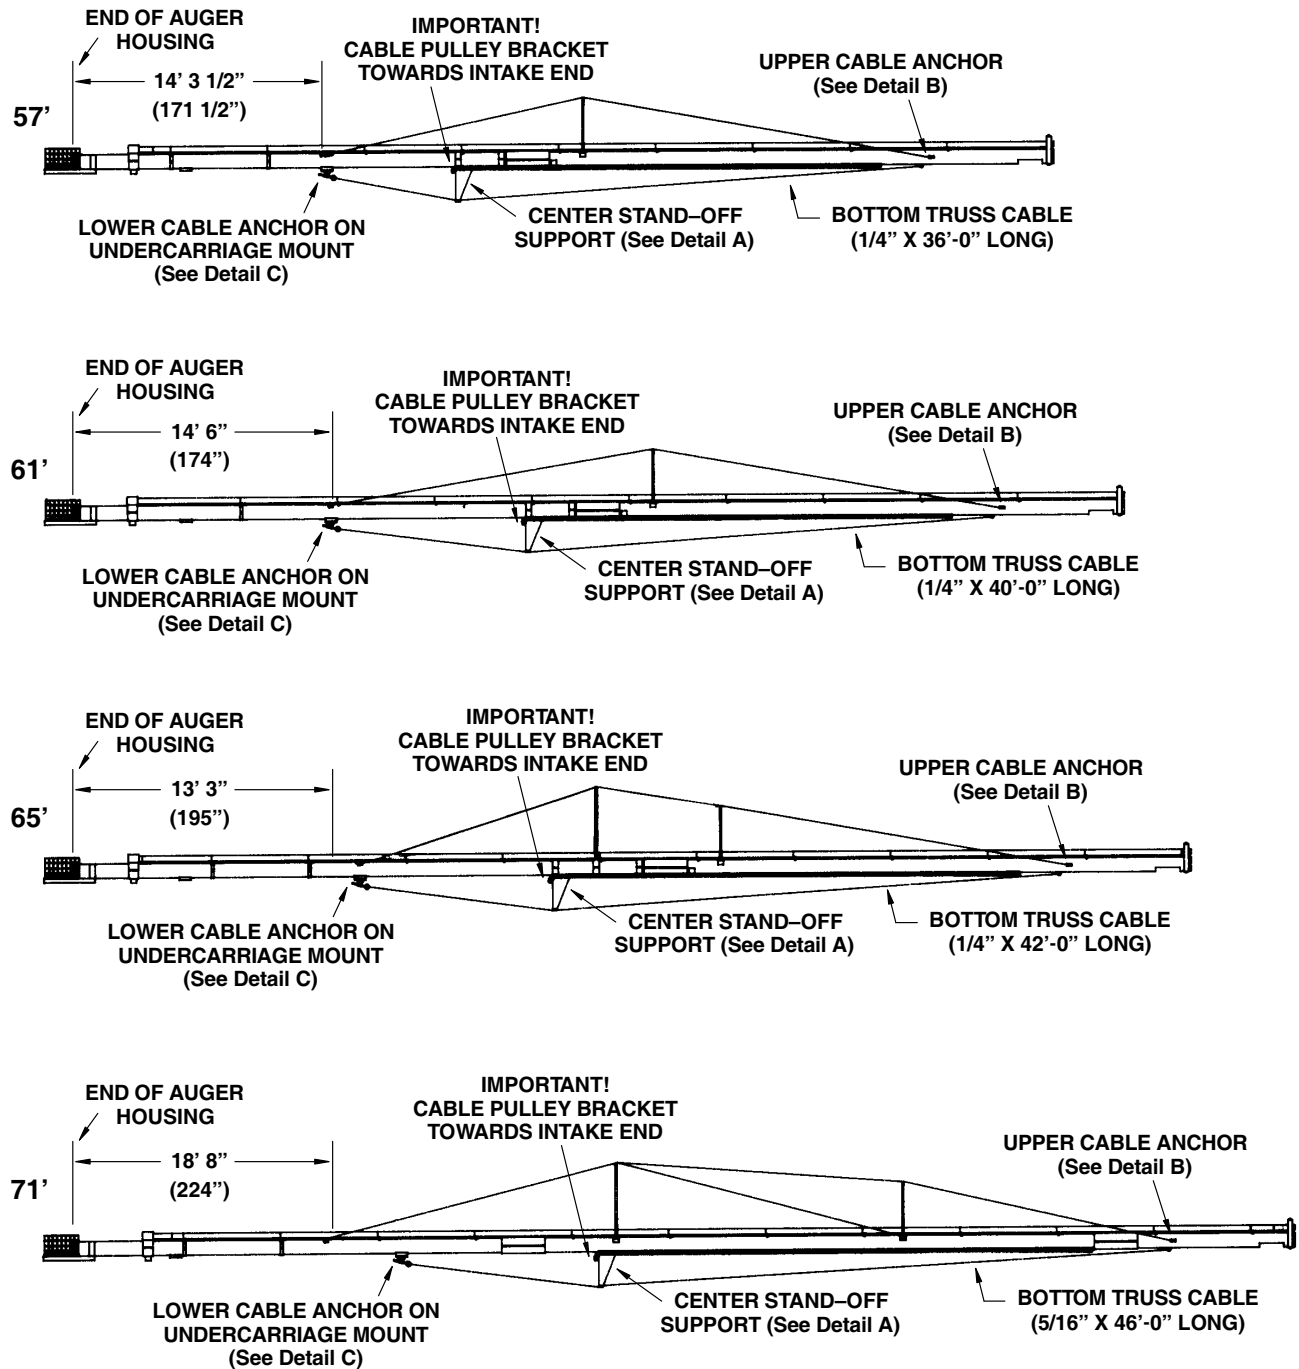

FIG. 39
Step 1. Install center stand-off support to bottom side of undercarriage track. See Detail A. For center stand-off location, see Fig. 39 on page 33. Use six 3/8" x 1 1/4" long (grade 5) hex head capscrews, flat washers, lockwashers and nuts to secure center stand-off support to undercarriage track.